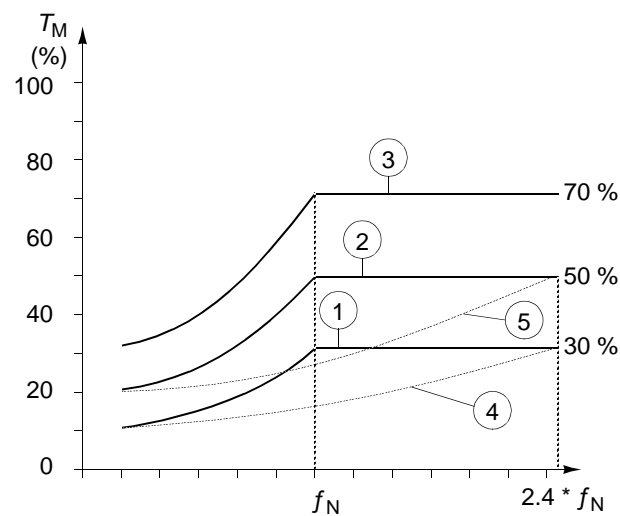

Figure 6-21 Underload curve types.  $T_M$  nominal torque of the motor,  $f_N$  nominal frequency of the motor.
- 30.15 UNDERLOAD CURVE** This parameter provides five selectable curves shown in Figure 6-21. If the load drops below the set curve for longer than the time set by Parameter 30.14 UNDERLOAD TIME, the underload protection is activated. Curves 1 ... 3 reach maximum at the motor rated frequency set by Parameter 99.07 MOTOR NOM FREQUENCY.